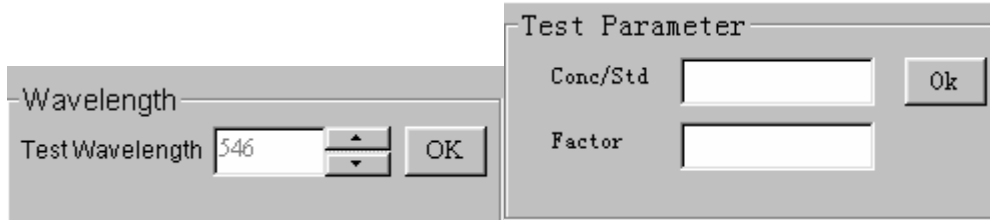

Figure-21 Test Wavelength and Test Parameter
- **Test Wavelength** Text Field: select the desired wavelength by moving the dial on the spectrophotometer and clicking  button on the PC screen, click **OK** button (Figure-21) at the right of  button to set the wavelength (Figure-22). The wavelength will be shown both in the Text Field below **Current WL(nm)** label and Text Field at the right of the **Test Wavelength** label.
- **Test Parameter** Text Field: If standard solution is available, type the **concentration** values of the standard into the Text Field at the right of **Conc/Std** label, insert the standard into Sample Compartment and click the **OK** button. Spectrophotometer will take measurement of the standard and display factor value. The unknown sample concentrations can then be measured. If factor value is available, enter the factor value into the Text Field at the right of **Factor** label for the unknown sample concentrations calculation (Figure-21).